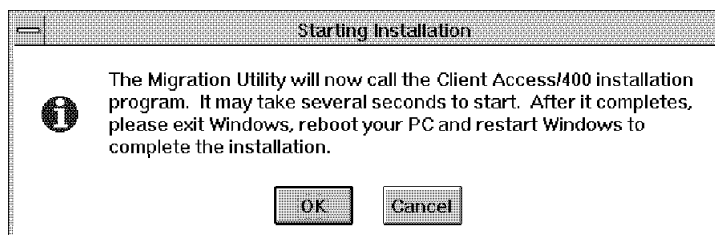

Figure 79. Migration Tool - Starting Client Access/400 Installation
10. If you do have the shared folders function available, the panel in Figure 79 is displayed, and the Client Access/400 for Windows 3.1 installation process begins.